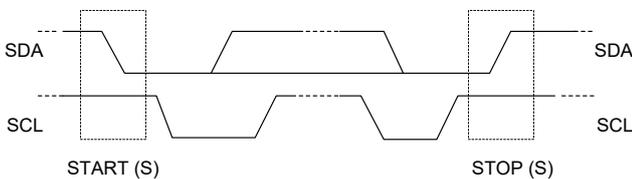

Figure 13. Placing the Start and Stop Conditions in the I2C Bus
When the bus is free (idle), both SDA and SCL remain high. A START (S) condition is sent by master at the beginning of a transaction with a high-to-low transition on the SDA line while the SCL is high and all slaves will detect that. Similarly, one (or more) STOP (P) condition is sent by master with a low-to-high transition of the SDA line while the SCL is high to terminate the transaction and release the bus (See Figure 13). It is recommended to initiate the bus by sending a STOP condition after power-up. The master may not release the bus after a complete transaction with the slave and send a repeated START (Sr) to initiate a new data exchange with the slave.